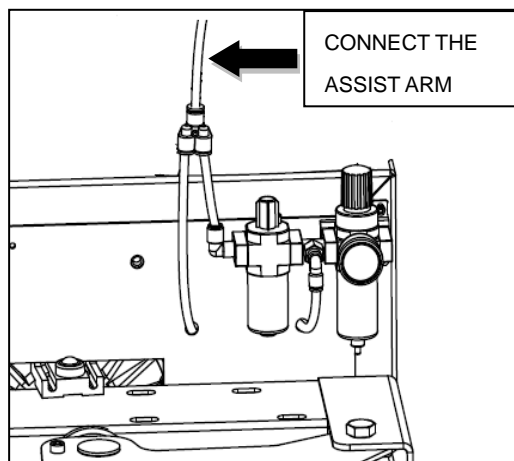

FIG14
2.9 connect the Y-TEE and air regulator then connect all the PU hose like FIG14.